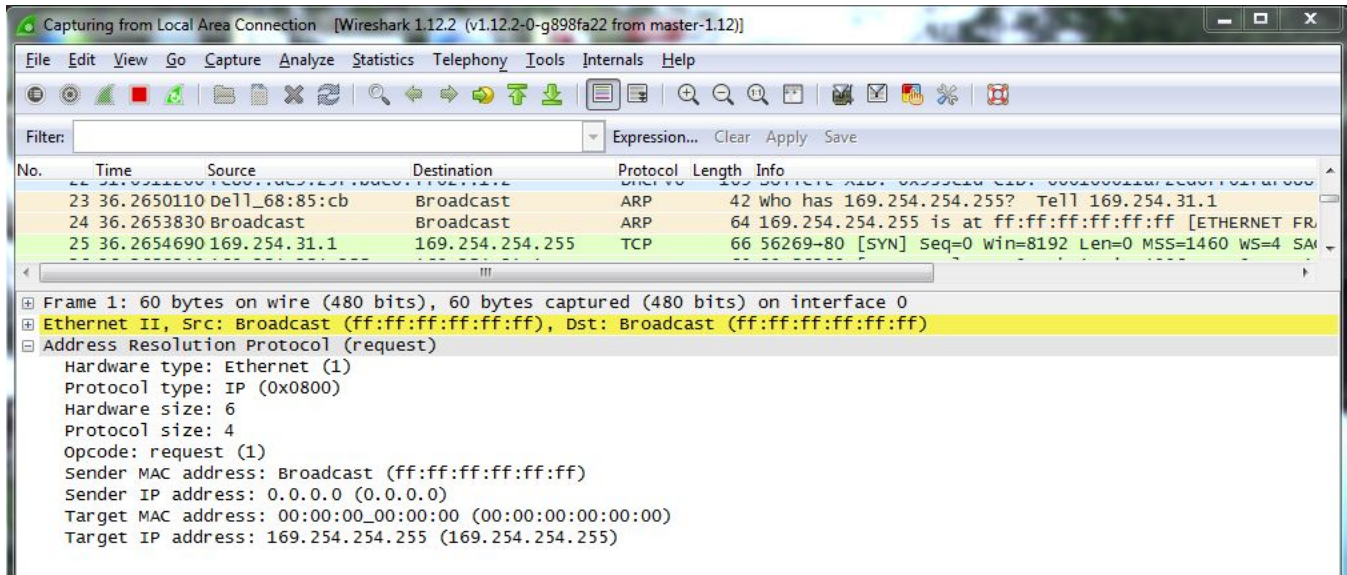

Figure 13. Wireshark Capture
- As the Wireshark screen capture from Figure 13 shows, the CAN-Ethernet converter requests the allocation of an IP address.
- The PC allocates the IP address within five seconds. The same allocated address can be seen from the Wireshark screen capture. For example, in Figure 13 the IP address allocated to the CAN-Ethernet board is 169.254.254.255.